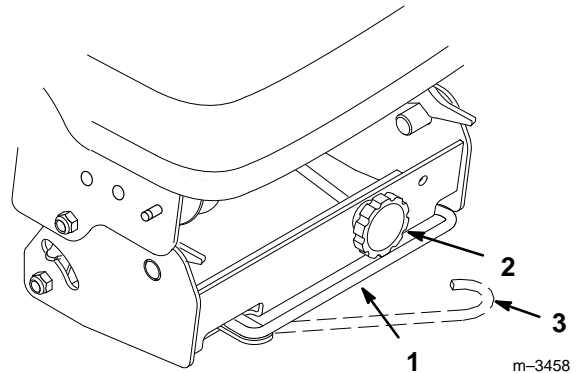

Figure 19
6. Release the belt tension release arm on the pulley box to release the tension on the drive belt (Fig. 19).